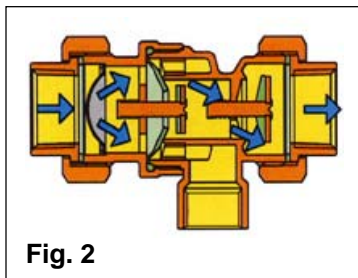

Fig. 2
- During normal operation of the BFP backflow preventer, the check valves are open allowing water through, while the vent connected to the drain remains closed. (Fig. 2)